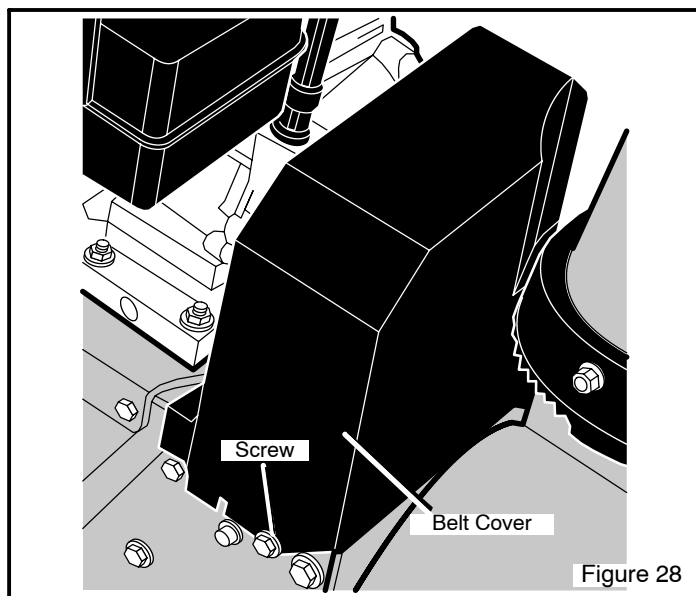

Figure 28
2. Remove **screw** from **belt cover**. Remove **belt cover** (see Figure 28).
4. Remove **screw** from **belt cover**. Remove the **belt cover** (see Figure 28).
16. Install the **belt cover**. Tighten **screw** (See Figure 28).
15. Install the **belt cover**. Tighten **screw** (see Figure 28).